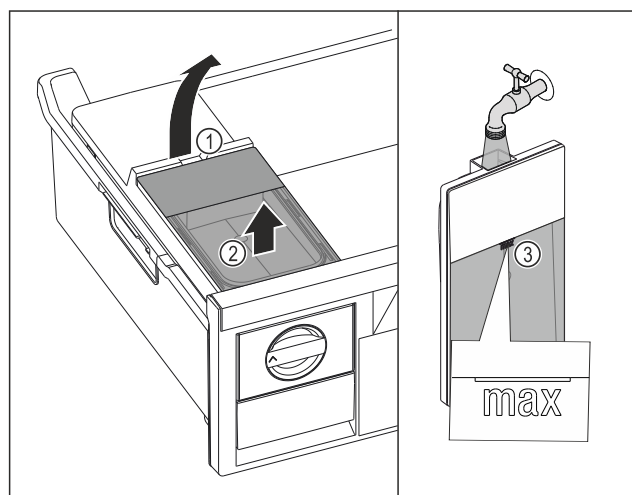

Fig. 98
- ▶ Lift the water tank at the recess Fig. 98 (1).
- ▶ Remove the water tank by lifting it upward. Fig. 98 (2)
- ▶ Fill the water tank with drinking water up to the mark Fig. 98 (3).